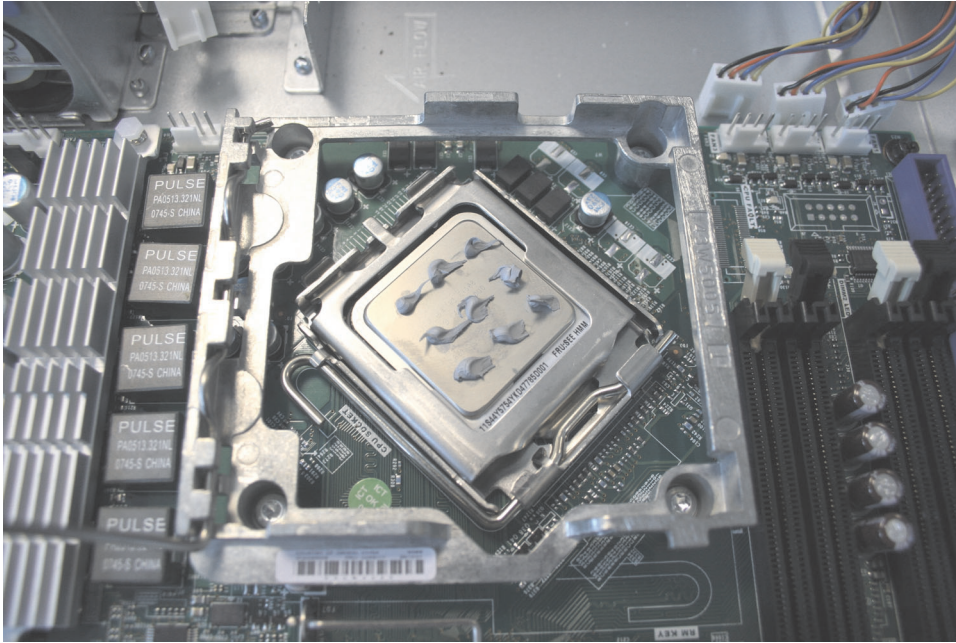

Figure 267. Complete set of nine thermal grease dots on the SAN Volume Controller 2145-8A4 microprocessor
- d. Apply thermal grease to the top of the microprocessor, as shown in Figure 267 on page 266. Apply nine dots of thermal grease in three rows of three dots each with the outer rows approximately 5 mm from the edge of the microprocessor. The diameter of the cap from the thermal grease syringe is 5 mm, so you can use it to judge the required position of the dots of thermal grease